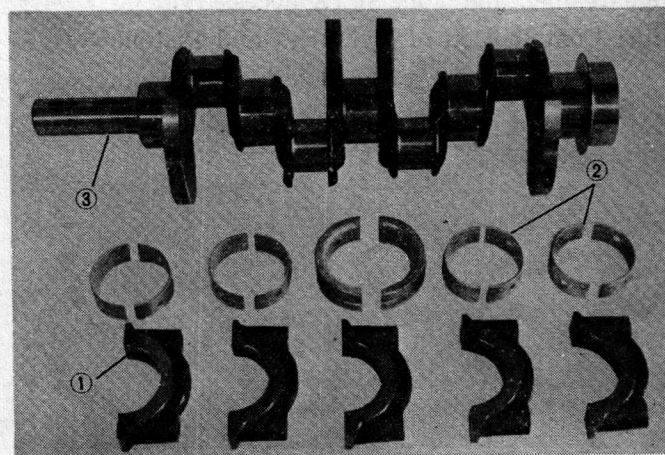

Fig. 79 Crankshaft Arrangement
(13) Remove the crankshaft bearing cap (1) together with the lower bearing (2). (Fig. 79)
(14) Remove the crankshaft (3) and then the upper bearing (2). (Fig. 79)